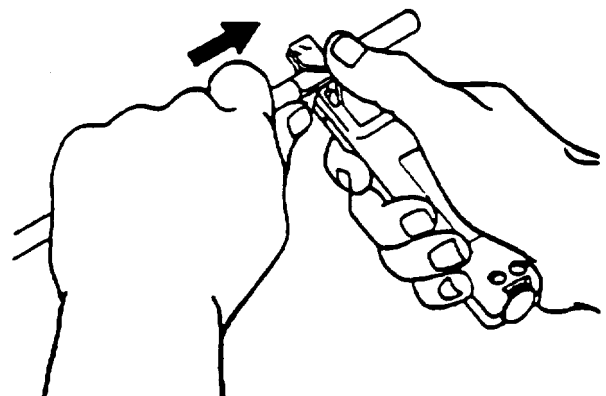

Figure 10. Swivel Blade Tool, Axial Cut
- Place thumb firmly on back of the guide to prevent blade from riding out of jacket. Rotate cable slightly and pull tool toward the end of the cable (see Figure 10).